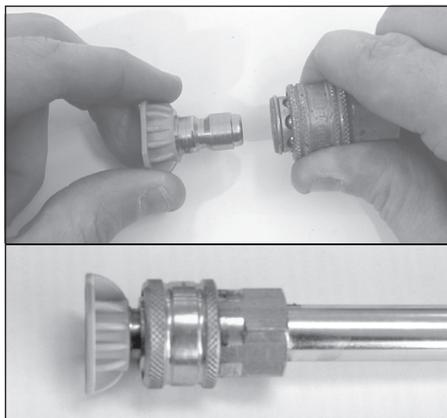

Figure 12 - Inserting quick connect tip
- Install quick connect tip by pulling back on collar and pressing in tip. Release collar, make sure it completely returns to its forward position and tip is secure (see Figure 12).